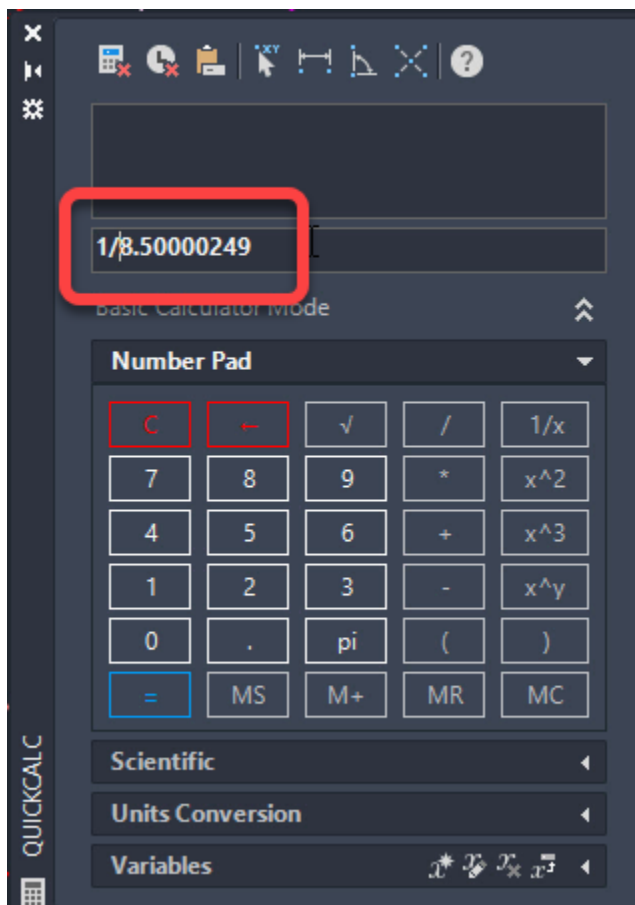

Figure 39: Using the Quick Calculator to determine what distance equals a single stall.
1. Use the Quick Calculator to establish the distance that will equal 1. In this example, each ~8.5-foot parking stall should be counted as 1, thus we use the calculator to calculate $1/8.5$ (see Figure 39).